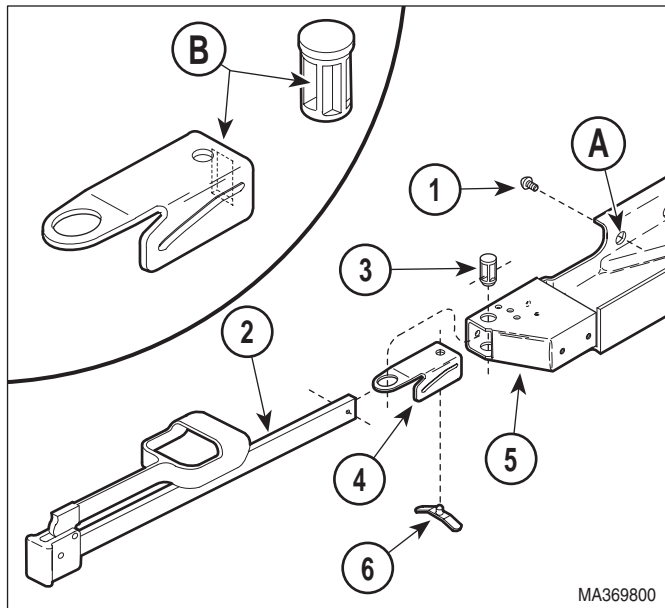

Figure 4-48. Stirrup Assembly Removal / Installation
- (1) Insert screwdriver in access hole (A) and remove screw (1, Figure 4-48) from stirrup assembly (2).
- (2) Pull stirrup assembly (2) out of pivot boss (3).